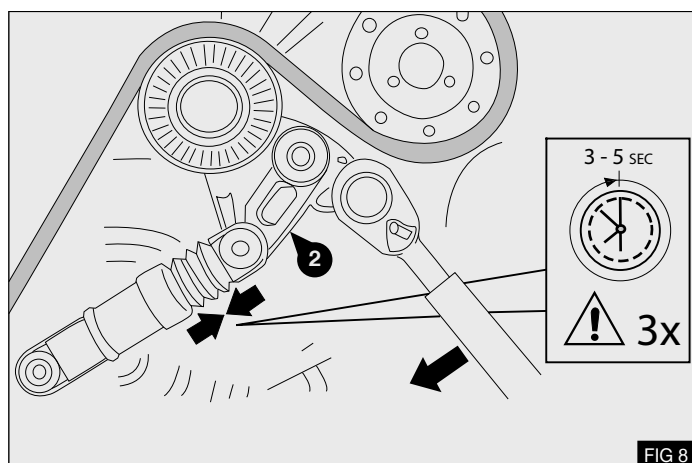

FIG 8
8. Cycle the tensioner (2), as shown in Fig 8